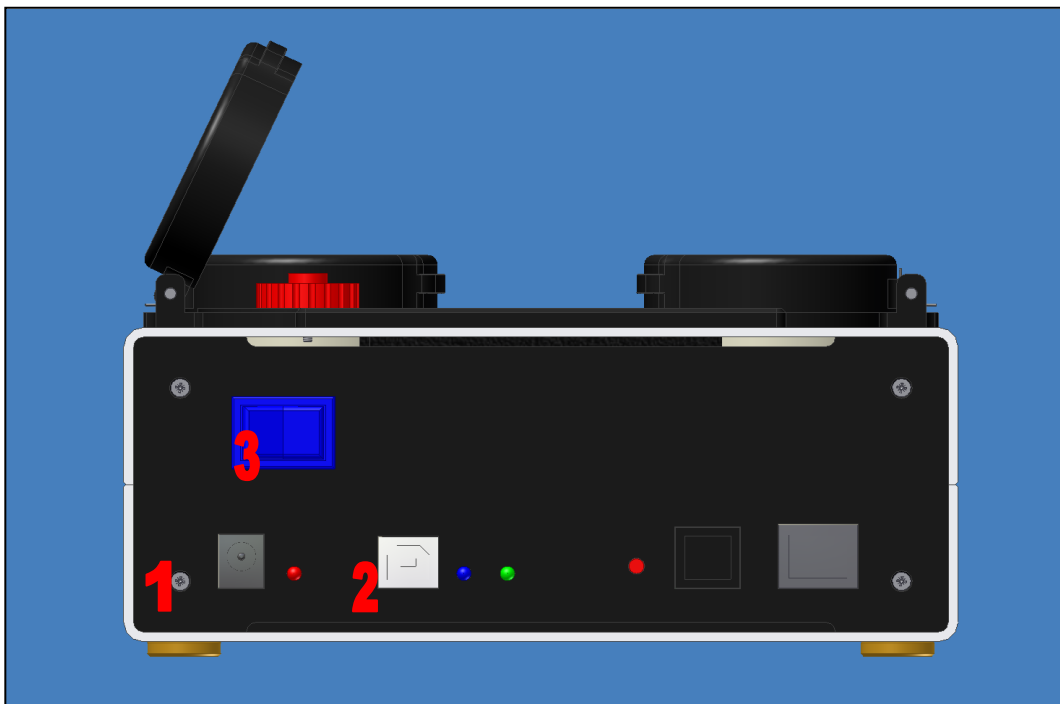

Fig. 1. RVLM – Front panel: (1) Power connector, (2) USB Connector, (3) Power switch
- Connect the output power supply plug to the RVLM power connector (fig. 1), **without turning on the device;**
- Connect the supplied USB cable between USB port on your computer and USB connector of the RVLM (fig. 1).
- Turn on the RVLM using the power switch (fig. 1);